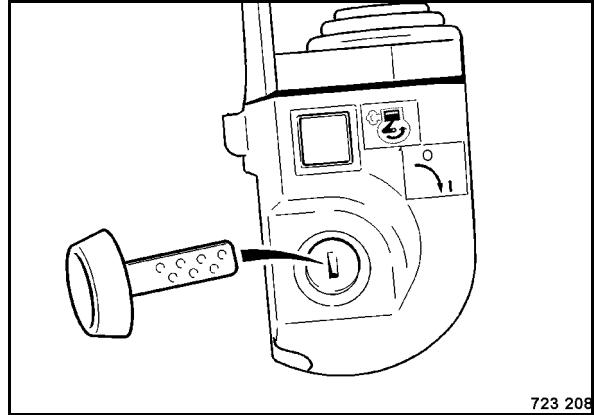

Fig. 51
- Pull off the ignition key (Fig. 51) and store it in a safe place.